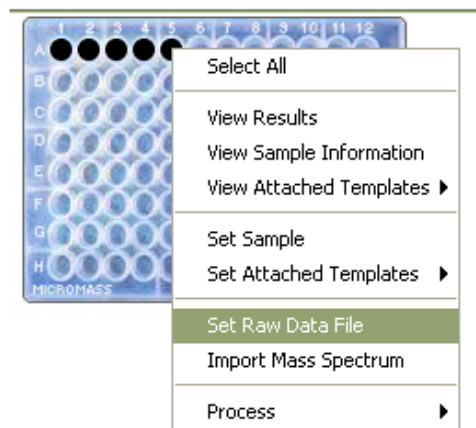

Figure 101 - Initiating raw data file
29. Right-click on one of the spots, and select **Set Raw Data File** (Figure 101).